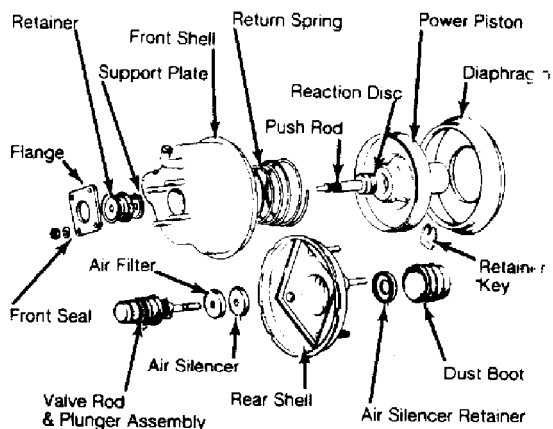

Fig. 8: Exploded View of Typical Power Brake Unit
2) From rear of cylinder bore, remove retaining ring, washer, primary piston assembly, and return spring. Remove stopper bolt and secondary piston by blowing compressed air through the outlet port. See Fig. 8.